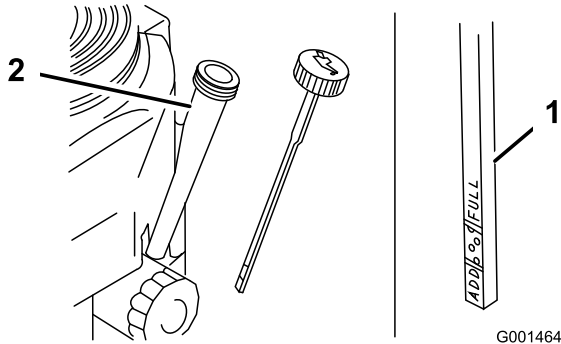

Figure 30
4. Clean around the oil dipstick (Figure 30) so that dirt cannot fall into the filler hole and damage the engine.
5. Unscrew the oil dipstick and wipe the end clean (Figure 30).
6. Slide the oil dipstick fully into the filler tube, but do not thread it onto the tube (Figure 30).
9. Slowly pour approximately 80% of the specified oil into the filler tube (Figure 30).